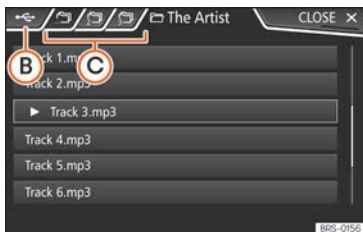

Fig. 194 Media Mode: list of tracks of a Media source.
- Press the **SELECT** function button on the **MEDIA** main menu » **Fig. 191** to open the track list. The track that is playing is highlighted » **Fig. 194**.